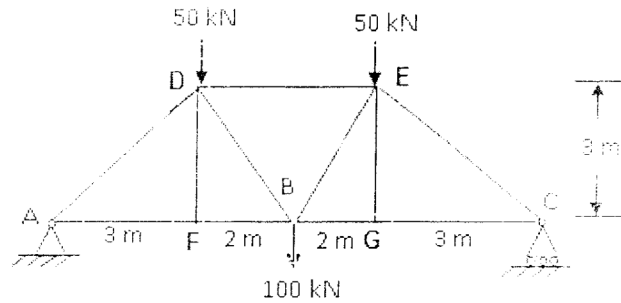

Figure: 2
3. Determine the member forces for the truss shown in figure 2 by using the method of tension co-efficient? [10]